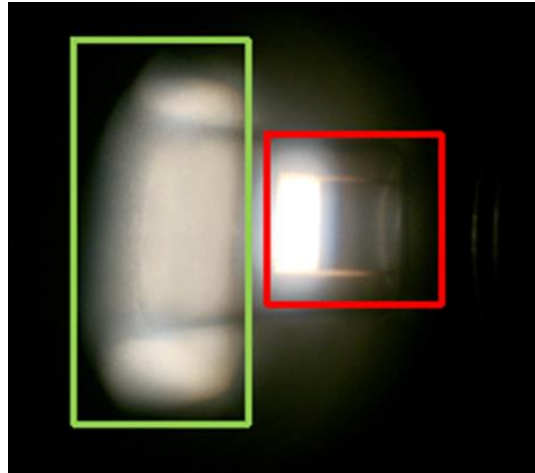

Figure 38: QTH lamp primary image (red box) and secondary reflected image (green box).
16. Figure 38 shows the lamp's primary image in the red box and the secondary image in the green box. Using the reflector adjustment knobs, ensure the secondary image is as sharp as possible. This may require loosening the condenser lens assembly adjustment knob and defocusing the primary image of the lamp filament, in order to achieve a sharper image of the filament's secondary image. Then overlay or superimpose the reflector's secondary image of the lamp onto the primary image of the lamp filament